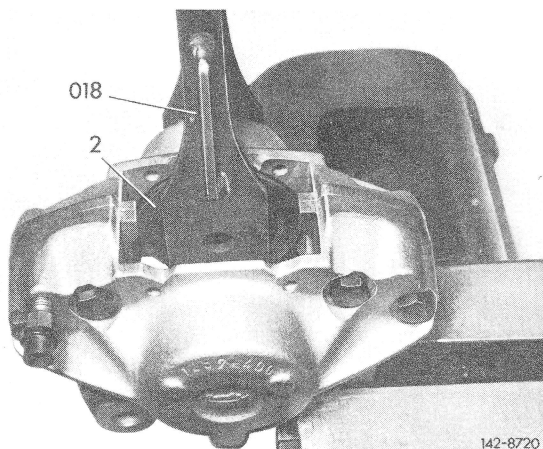

Fig. 3
3 Hold one piston (2) in caliper with piston resetting pliers (018). Then force out opposite piston with compressed air of approx. 0.5 bar overpressure (0.5 atü) (Fig. 3).